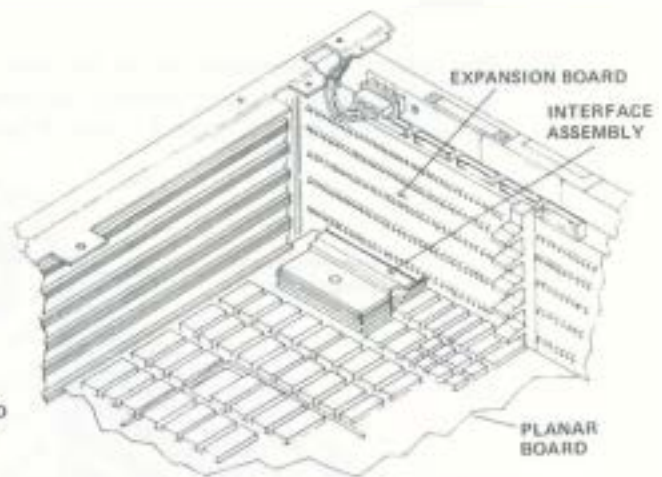

Figure 5-37. Planar Board
2. Remove the interface assembly from the planar board by alternately prying the ends very carefully with a small screwdriver. See Figure 5-37.